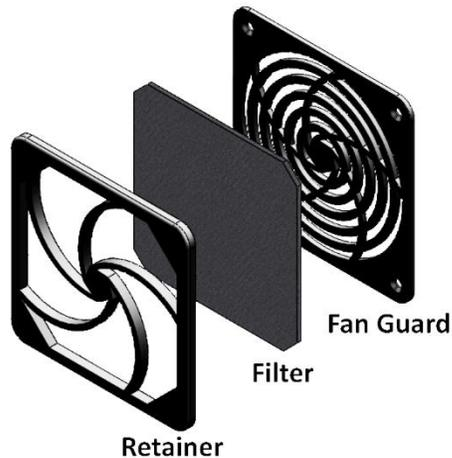

Figure 5.3b: MTS-3050 Fan Filter Assembly
3. Remove the air filter that is in between the Filter Retainer and Fan Guard. See figure 5.3b.